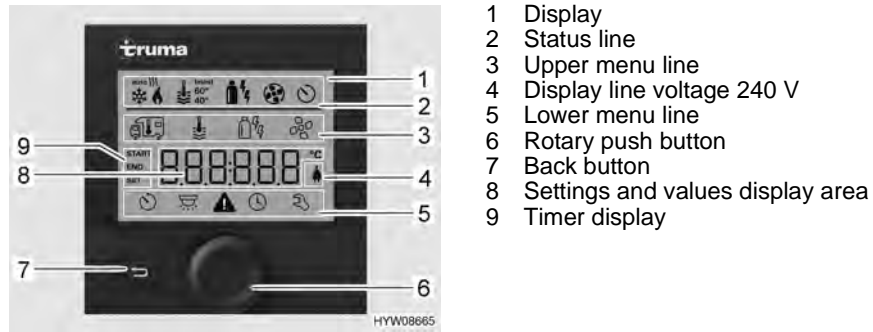
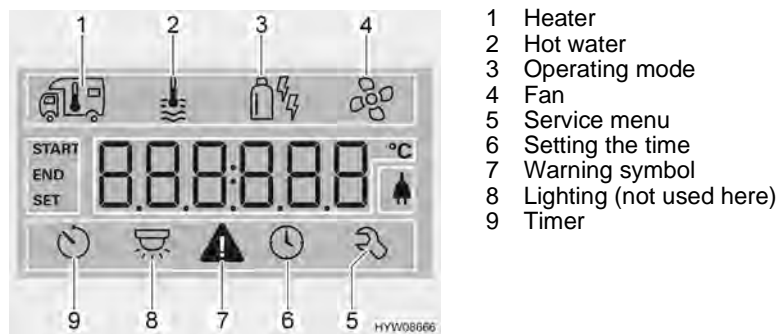

Fig. 75 Operating unit with displays
Fig. 76 Display (operating unit)
- Status line (Fig. 75,2)
- Upper menu line (Fig. 75,3)
- Display area (Fig. 75,8)
- Lower menu line (Fig. 75,5)
- Press and hold the rotary push button (Fig. 75,6) for approx. 3 seconds. Both menu lines (Fig. 75,3 and Fig. 75,5) are displayed. The first symbol flashes.
- Turn rotary push button (Fig. 75,6) until the required menu symbol flashes.
- Press rotary push button to save the value set. If you do not wish to change the value originally set: Press back button (Fig. 75,7).
- Turn rotary push button (Fig. 75,6) until the heater menu symbol (Fig. 76,1) flashes.
- Press rotary push button to save the value set. The symbol in the status line (Fig. 75,2) flashes until the room temperature set is reached. If you do not wish to change the value originally set: Press back button (Fig. 75,7).
- Turn rotary push button (Fig. 75,6) until the hot water menu symbol (Fig. 76,2) flashes.
- Press rotary push button to save the value set. The symbol in the status line (Fig. 75,2) flashes until the hot water temperature set is reached. If you do not wish to change the value originally set: Press back button (Fig. 75,7).
- Turn rotary push button (Fig. 75,6) until the menu symbol operating mode (Fig. 76,3) flashes.
- Press the rotary push button to save the set operating mode. To revert to the original setting: Press back button (Fig. 75,7).
- Turn rotary push button (Fig. 75,6) until the fan menu symbol (Fig. 76,4) flashes.
- Turn rotary push button (Fig. 75,6) until the timer menu symbol (Fig. 76,9) flashes.
- Press rotary push button. The timer is activated. The timer symbol (Fig. 76,9) flashes when the timer is programmed and active.
The warning symbol (Fig. 76,7) flashes in the event of a warning. The heater continues to operate. In the event of only a temporary fault, the warning symbol goes out automatically.